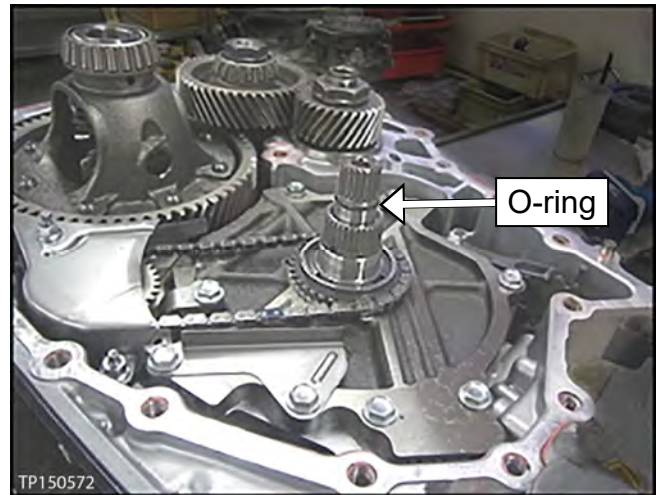

Figure 5
7. Remove the O-ring from the input shaft (see Figure 5).